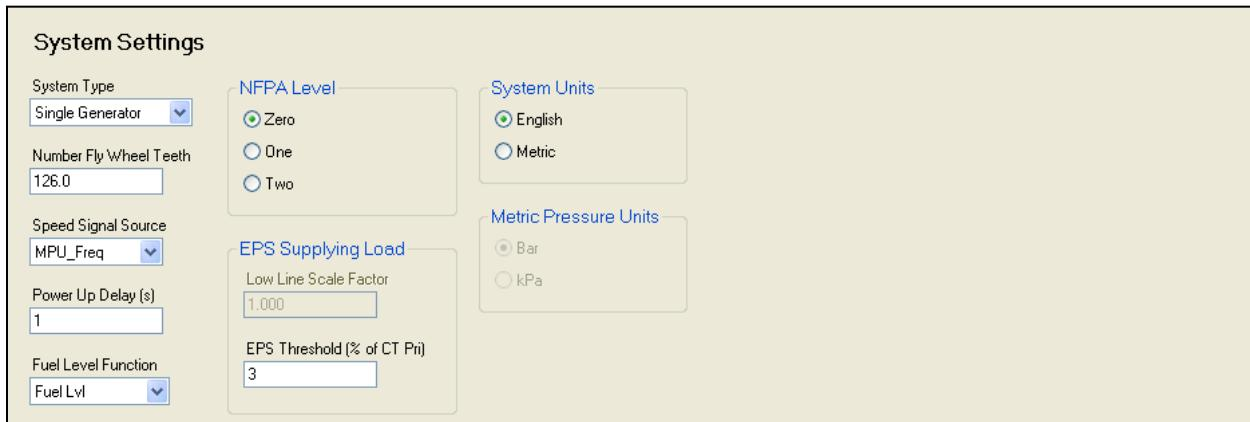

Figure 6-22. Settings Explorer, System Parameters, System Settings Screen
a. System Settings (Figure 6-22)